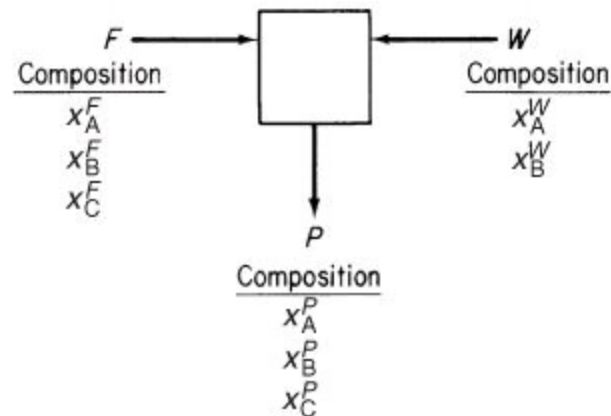

Figure P3.2.12
****3.2.12.** You have been asked to check out the process shown in Figure P3.2.12. What will be the minimum number of measurements to make in order to compute the value of each of the stream flow rates and stream concentrations? Explain your answer.